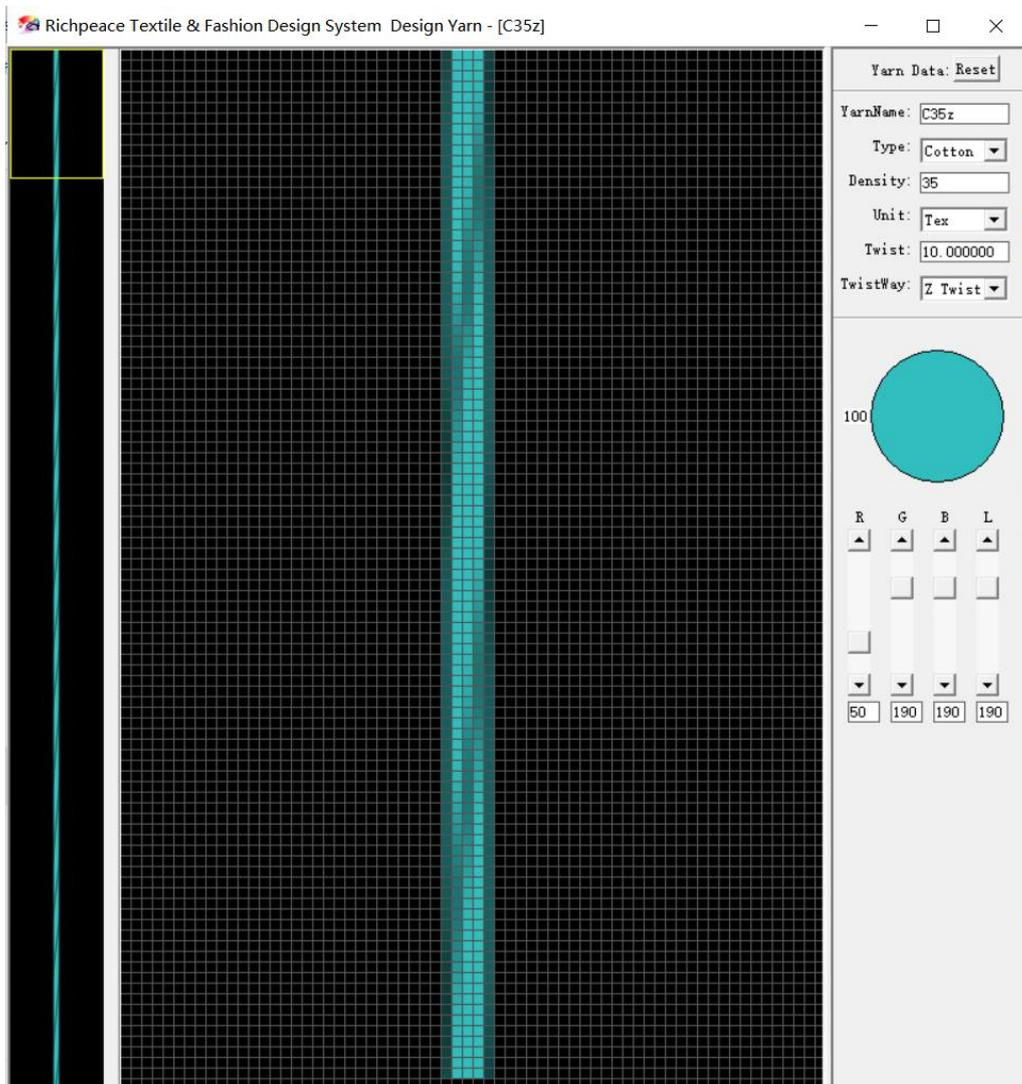

Figure 5-42 Default Yarn Design Window
-  New yarn: Click the New Yarn command, and the default yarn will appear in the Yarn Design window (Figure 5-42):